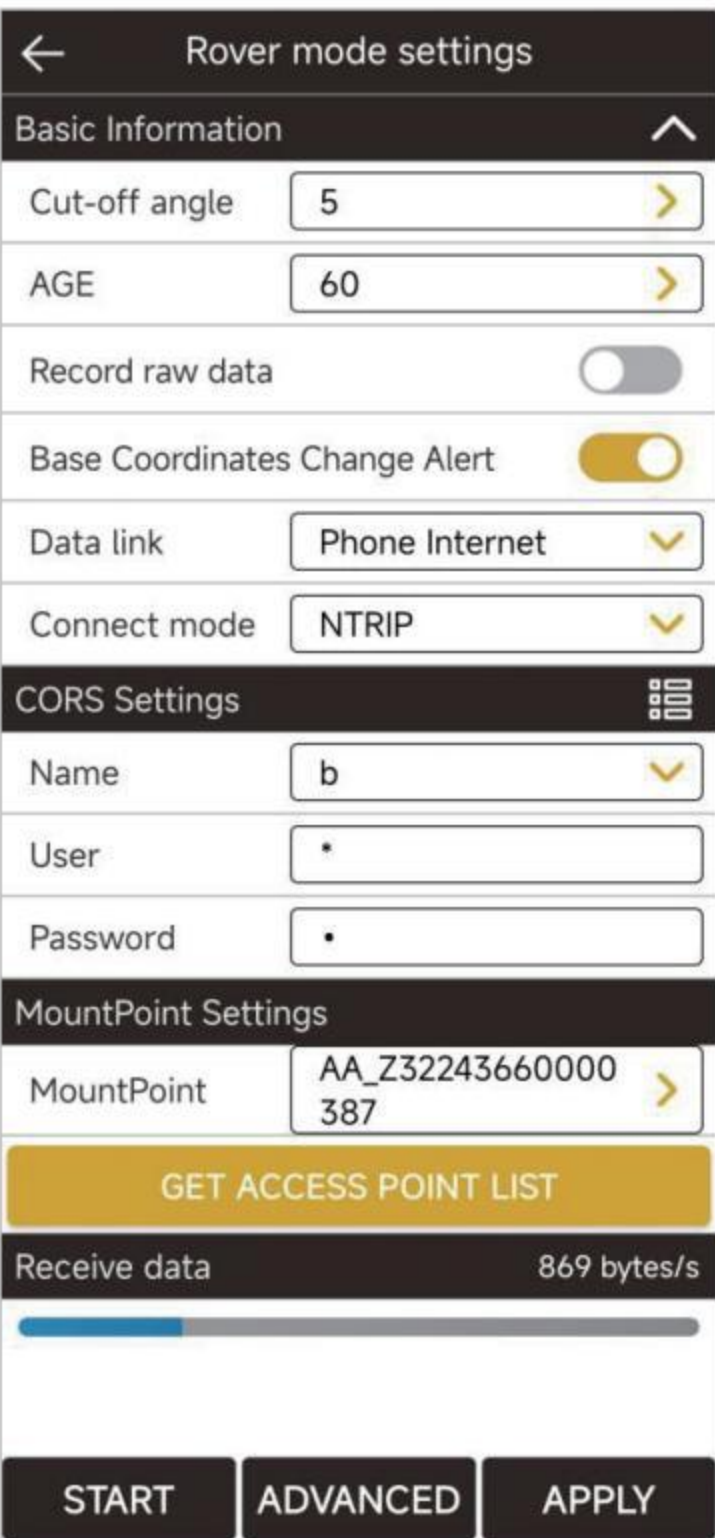

Figure 3.4-1
Click [Device] -> [Rover], as shown in Figure 3.4-1. GNSS positioning equipment can calculate positioning coordinates by receiving satellite signals. In the absence of other interferences, the positioning equipment can only obtain the coordinate position of a single point solution due to the interferences of the atmosphere on the signal, and the accuracy is low. In order to ensure that GNSS devices can obtain high-precision positions, in addition to the GNSS device itself receiving satellite signals to calculate the position, it is also necessary to receive the signal of another nearby fixed-position GNSS device, and use the signal of the other device as the reference signal. Since the influence of the atmosphere on the signal is basically the same within a certain area, when the coordinate position of the reference signal is known, the two sets of GNSS can calculate the high-precision position. The GNSS device with a fixed position is called the base, and the GNSS device with a non-fixed position is called the rover. Relative to the GNSS satellite signal of the rover, the data transmitted by the base is called differential data, and the data transmission method is called data link. The rover mode setting is to set the GNSS as a rover, configure certain parameters to transmit the GNSS satellite signal of the base station to the GNSS device in a certain way, so that the GNSS device can obtain a high-precision positioning.
In addition to differential data transmission configuration, you can also set the GNSS altitude cutoff angle, differential delay, and whether to enable PPK and other basic information, as shown in Figure 3.4-1. Set the altitude angle to not receive the satellite signal when it is lower than a certain value. In the case of poor satellite signals at low angles, it is beneficial to precision calculation. The PPK parameter records the original GNSS
1. Data collector Internet: As shown in Figure 3.4-1, it refers to obtaining differential data from the specified server address through the network of the device where the software is located according to a certain protocol, and then sending it to the device through the communication connection between the software and the GNSS device for high-precision solution. Click on the right side of CORS settings  to enter the CORS server management interface, as shown in Figure 3.4-2. You can directly select, edit, and delete existing CORS servers, or manually add CORS server parameters, as shown in Figure 3.4-3. After correctly configuring the server address, obtain the access point list, as shown in Figure 3.4-4, and select the corresponding access point to obtain differential data. Click [Start], if the configuration is correct, the data reception progress bar will move. If there is no data in the progress bar, you need to confirm whether the parameter configuration is correct.